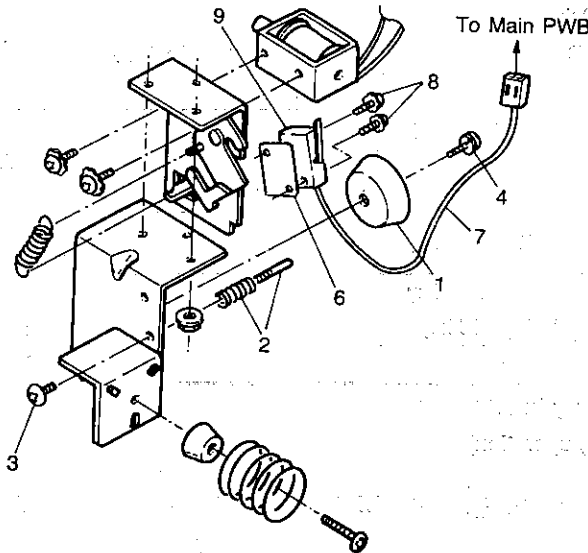

Fig. 8-4
- Install each component 1 to 4 as illustrated in Fig. 8-4.
- Mount the micro switch to the lock unit using the spacer and top screws. See Fig. 8-4. (No.6 ~ 9)